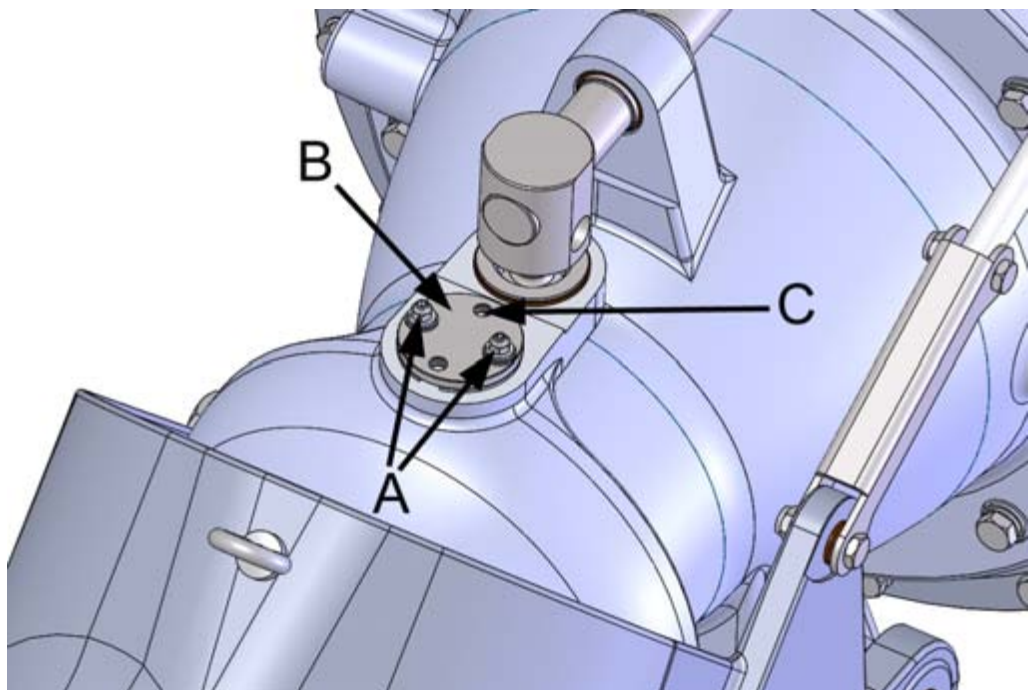

Figure 61. Steering nozzle spindles
2. Open the locking nuts of the steering nozzle spindles (4 pcs, figure 61, point A) and pull out the spindles (figure 61, point B).
You can make use of the extraction holes on the spindles (figure 61, point C). Note that there are two spindles, one at the top of the steering nozzle and one at the bottom.